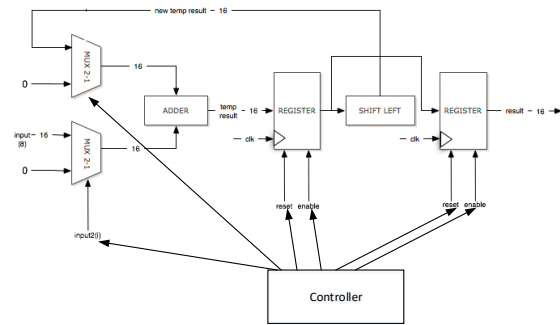

Figure 3. The figure of an example architecture
3. The architecture of the 4x4 multiplier (handwritten figure). It must be something like Figure 3. Please note Figure 3 is just an example to show you in which details you should draw the architecture.